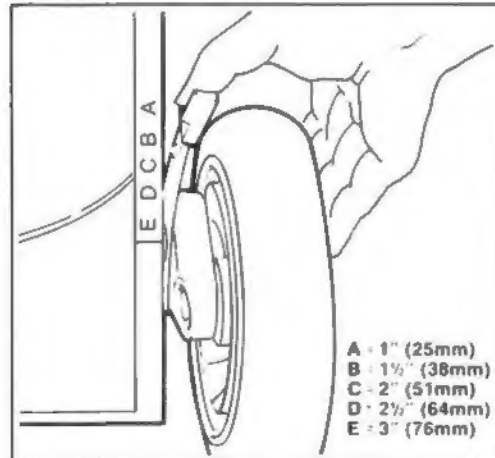

Figure 10
Five letters cast into the housing represent each graduated increment (Fig. 10).
2. For easier adjustment, lift housing up so wheel is off ground. Squeeze adjusting lever toward wheel and move to desired setting (Fig. 10). Assure pin on adjusting lever engages notch in housing. Adjust all wheels to the same setting.